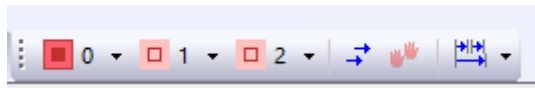

Figure 184. IAR EWARM Running Projects
12. (Flash boot) Click **Project > Debug without Downloading** the primary project to debug. Debug the projects according to the procedures in Section 5.3.5 *Debug for Multiprocessing* No. 4 and after. As shown in Figure 184, it is according to the setting in *multicore_setup.xml*. The primary project is 0, the secondary project is 1, and the tertiary project is 2.